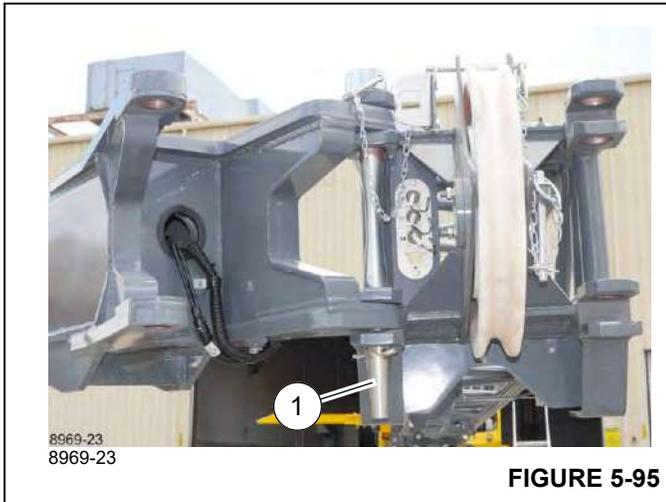

FIGURE 5-95
2. Make sure the attachment pin (1), (Figure 5-95) and retaining clip are in place that connects the ends of the